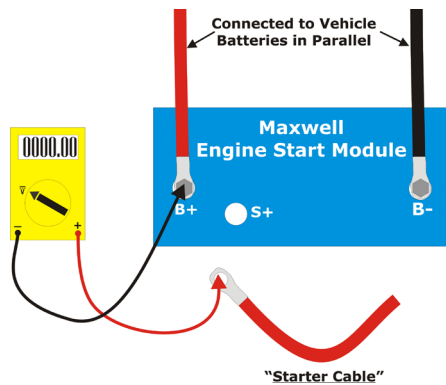

Figure 4
2. Connect the multimeter's red (+) lead to the free end of the cable coming from the Starter motor, and clip the multimeter's black (-) lead to the B+ terminal on the ESM (see Figure 4). The voltage should read less than 0.1 volts DC.